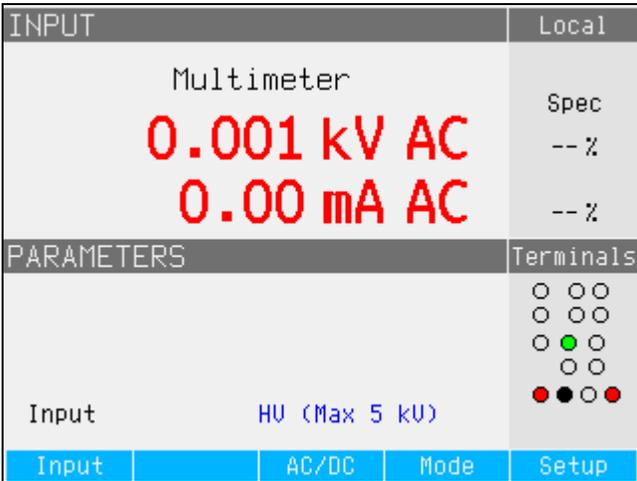

Figure 22. Meter Input Set to Directly Measure up to 5 kV, HV Terminal Active
4. Connect the test leads from the HIPOT output voltage terminals to the Meter. Connect the HI output signal of the DUT to the Meter V input if measuring <1100V, or to the HV input if measuring from 1100 V to 5000 V ac rms or dc. Connect the DUT GND or LO terminal to the Meter COM terminal. See Figure 22.